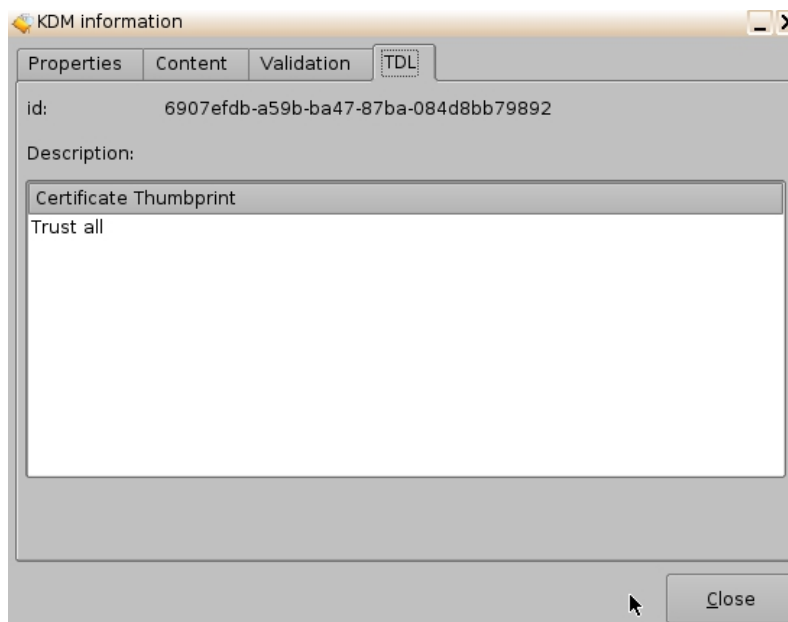

Figure 75: KDM Information Pop-Up Window
- The TDL tab contains the list about the trusted devices (projectors) and their certificate thumbprints (Figure 75).